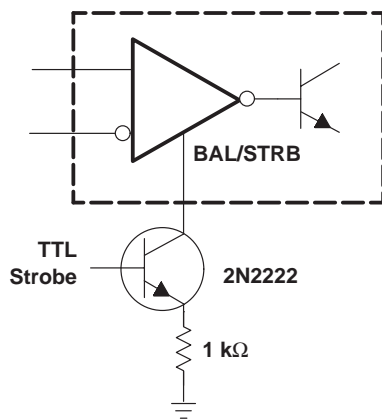

Figure 13. Strobing
7. The strobe should not be shorted to ground; it should be current driven at -3 mA to -5 mA (see Figures 13 and 27).